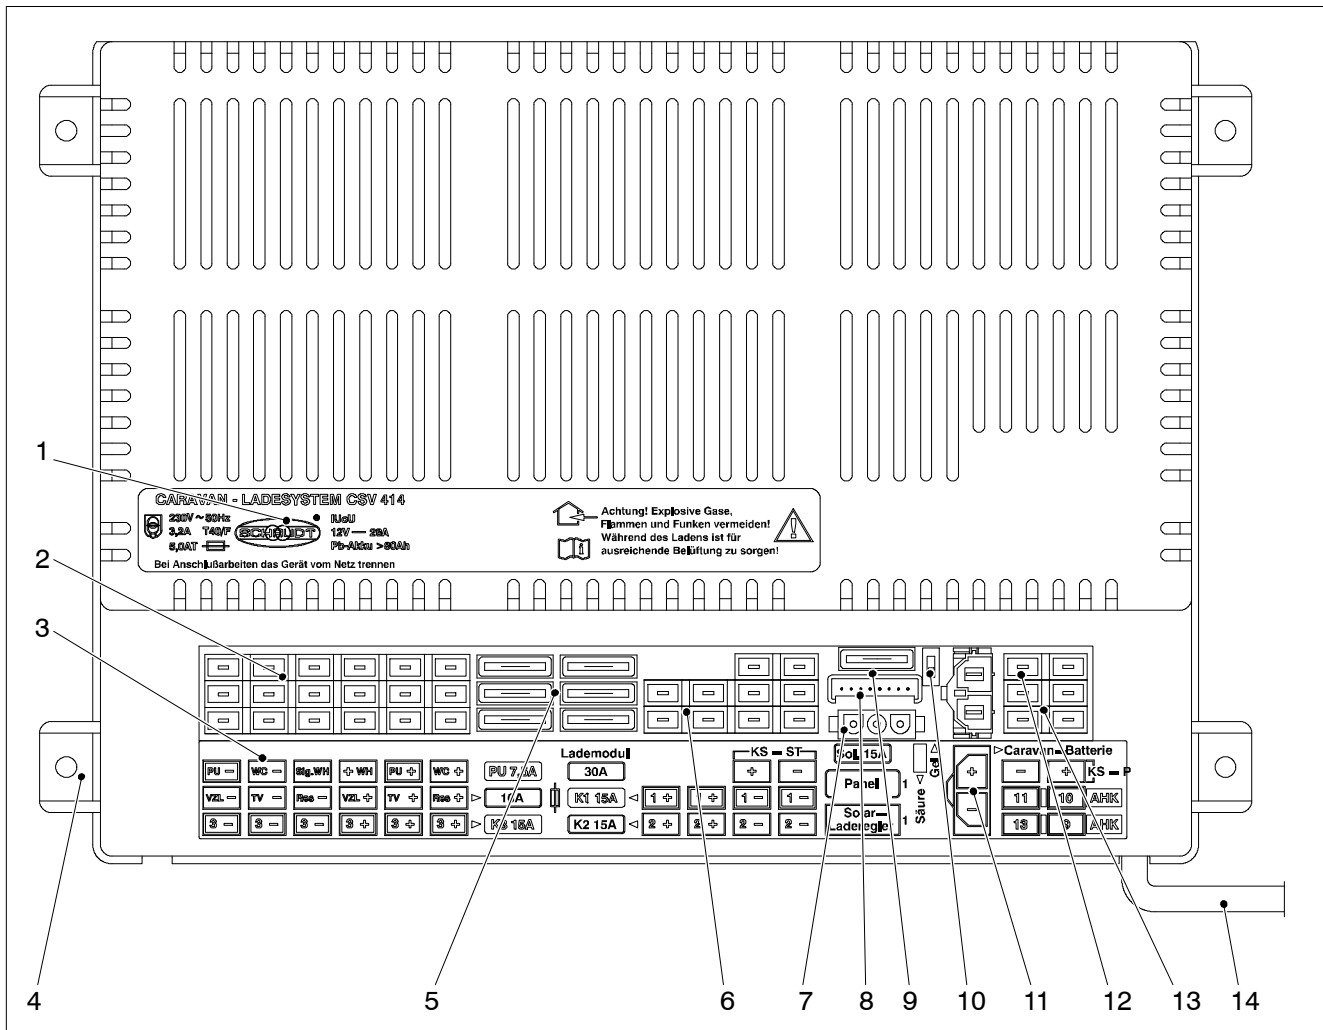

Fig. 3 Front view of CSV 414 caravan charging system
- Move the battery selector switch (Fig. 3, Pos. 10) to the correct position using a thin object (e.g. a ballpoint pen):